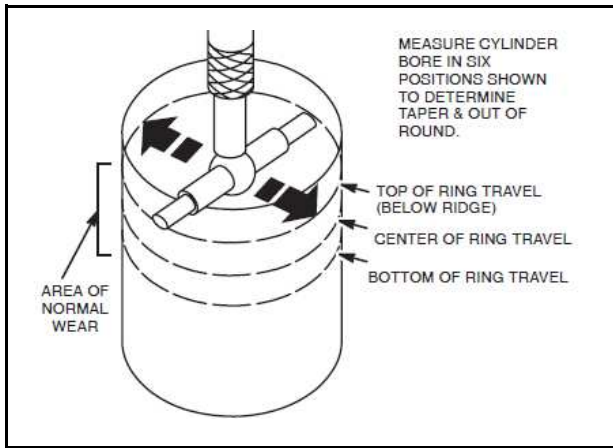

Fig.3-Checking Cylinder Bore
3. Check cylinder bores for wear, Fig.3.
- Measure cylinder bore in 6 points at right angles as shown, Fig.3.